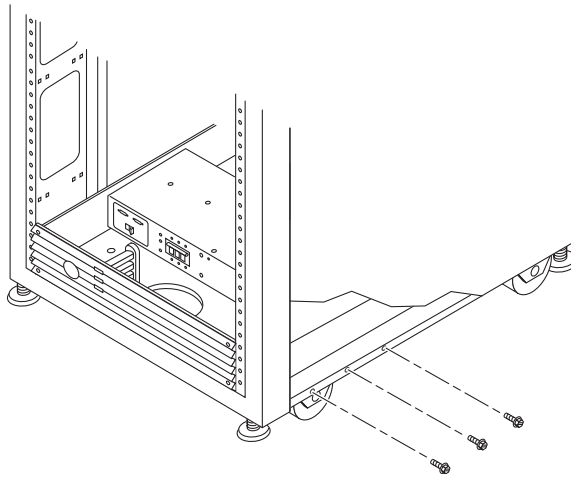

FIGURE 2-6 Removing the Mounting Screws
1. Remove the mounting screws from the bottom right and left sides of the cabinet (FIGURE 2-6).